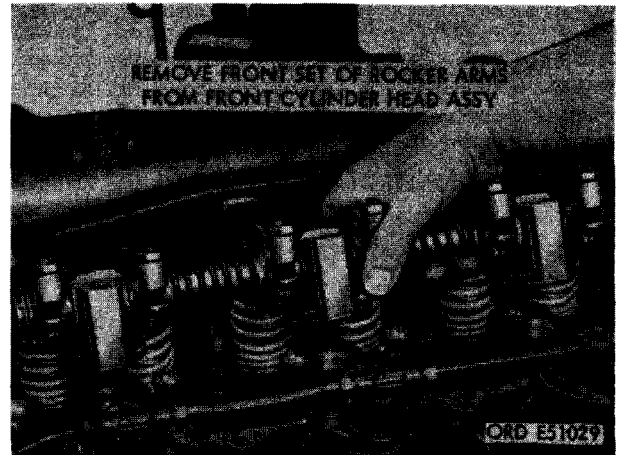

FIGURE 181. REMOVING OR INSTALLING FRONT ROCKER ARMS.
- (3) Refer to figure 181 and remove front rocker arms.